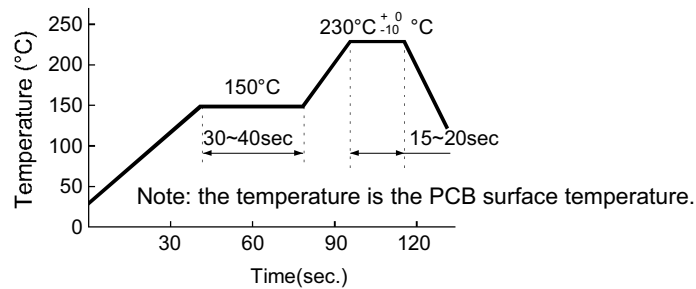

Figure.8
- (1) For mounting, it is recommended to solder at less than 230°C for 20 seconds or less. An example of the infrared ray reflow temperature profile is shown as follows (see Figure 8).